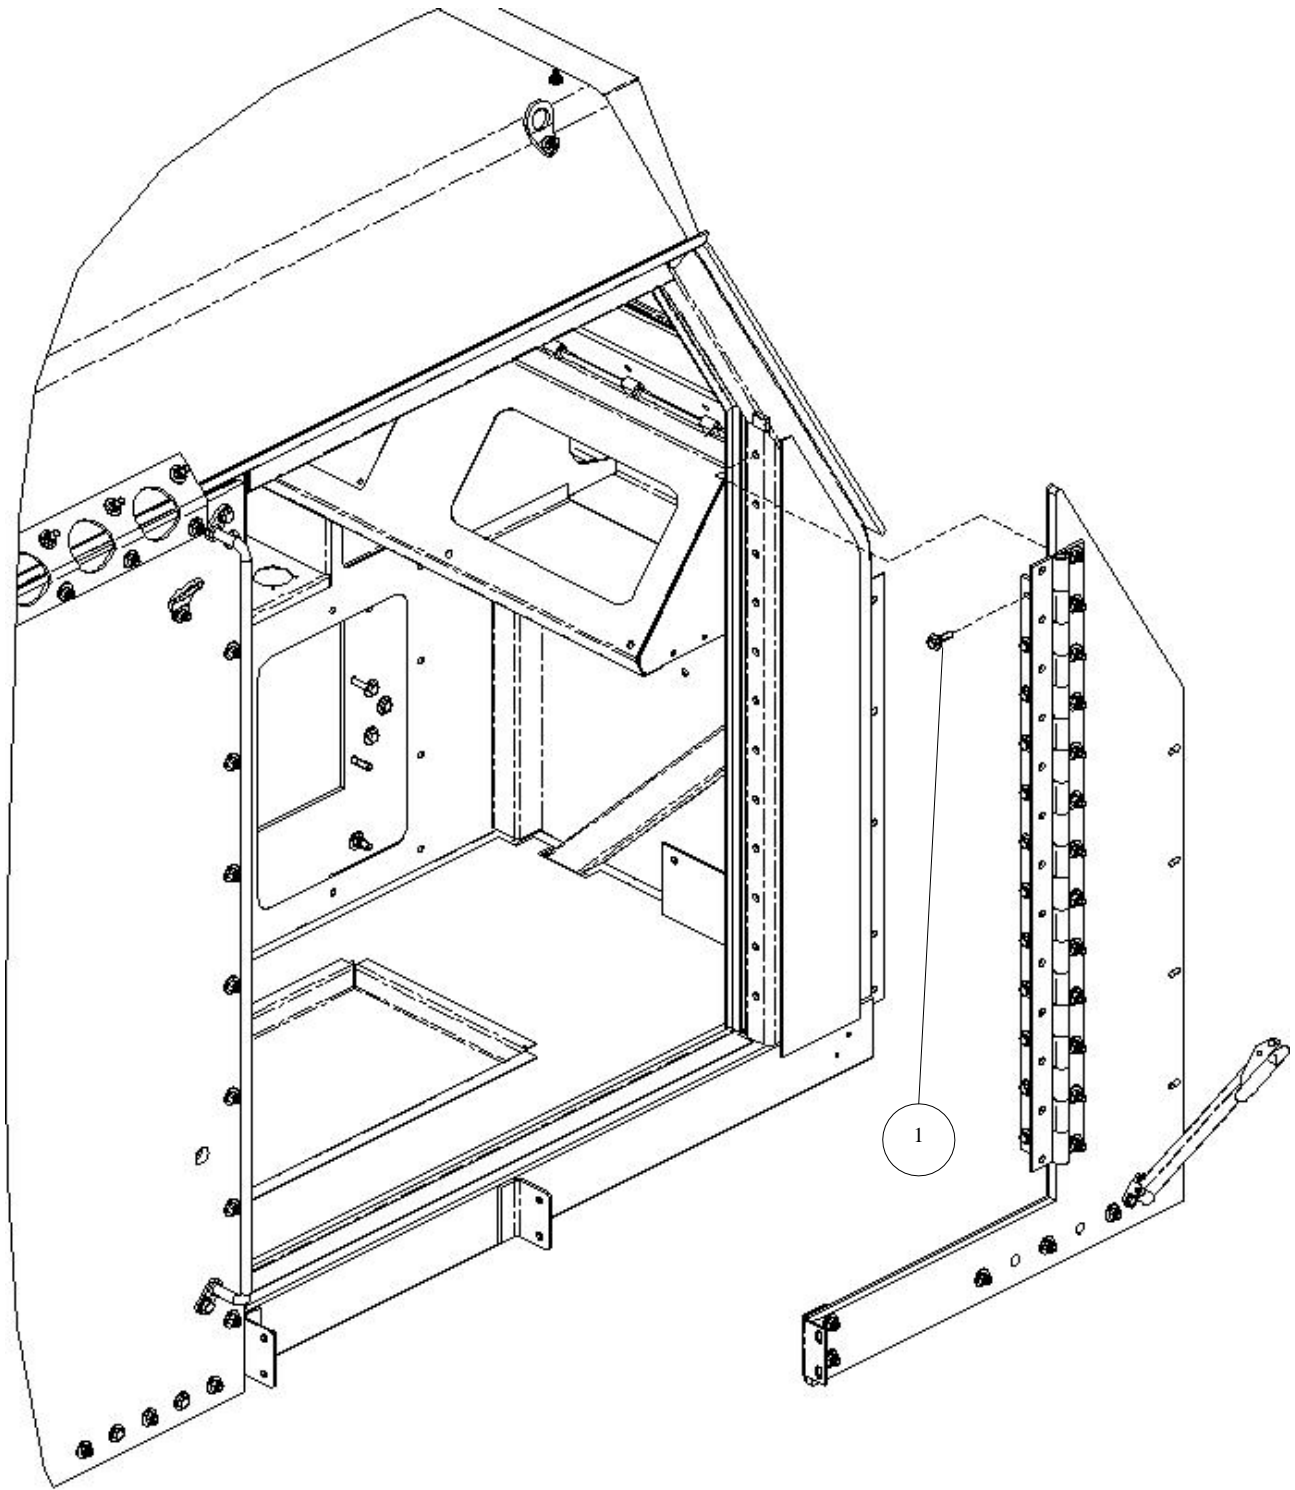

Figure 3-49. Right Side Panel Assembly Installation.
2. Install right side panel assembly as follows (see Figure 3-49):